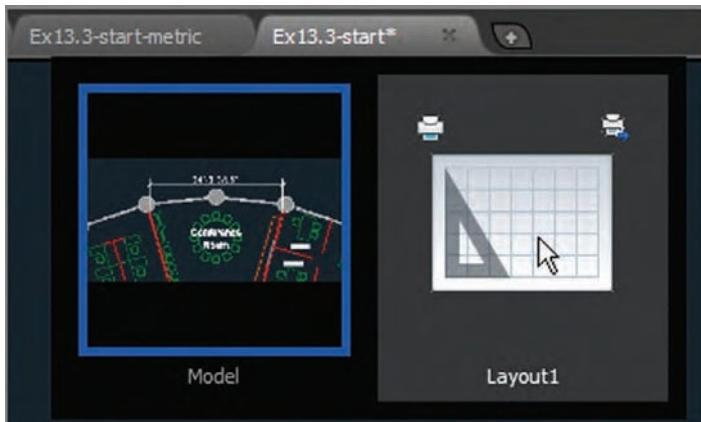

**FIGURE 13.9** Creating a nonplotting viewport layer and setting it as current
2. Click the New Layer button in the Layer Properties Manager that appears. Type **Z-Viewport** and press Enter. Double click Z-Viewport's status icon to set this layer as current (it changes to a green check mark). Click the printer icon in the Z-Viewport layer's Plot column to make this layer nonplotting (see Figure 13.9). Close the Layer Properties Manager.